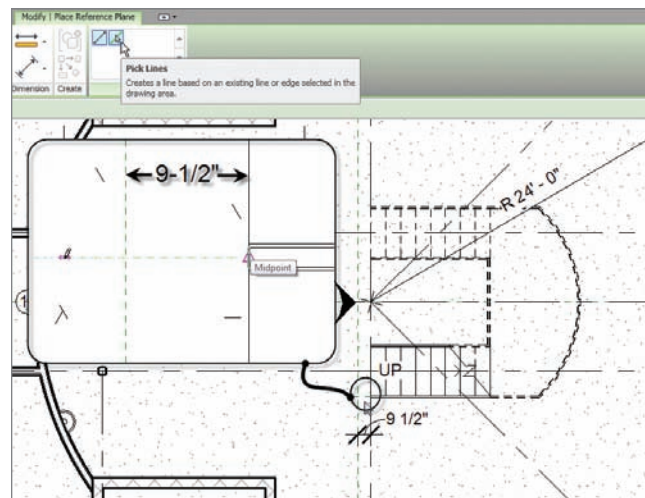

FIGURE 10.14 Add two reference planes as indicated here.
6. On the Place Reference Plane tab, click the Pick Lines button, as shown in Figure 10.14.
7. Offset a reference plane 9 1/2" to the left of the bottom riser, as shown in Figure 10.14.
8. Draw another reference plane from the center line of the bottom railing to the left about 2'-0" (see Figure 10.14).